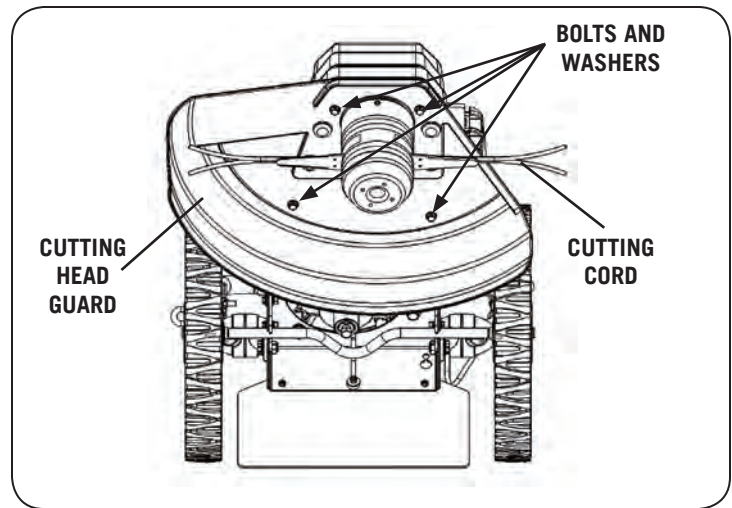

Figure 16
3. Remove the four debris guard bolts and flat washers with a 10mm wrench. Remove the cutting head guard (see Figure 16).